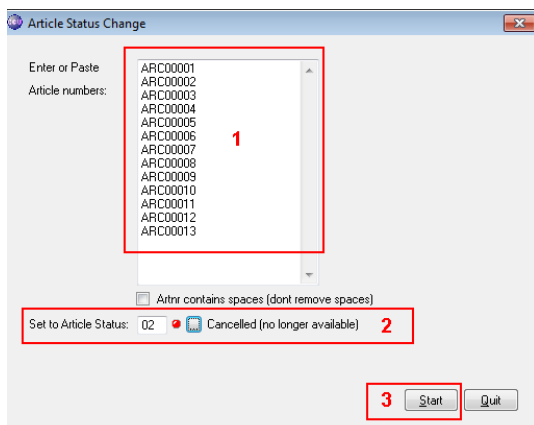

Figure 3: Using the Article Status change functionality
To use this new functionality please insert or paste the article numbers from MS Excel you want to change the status for (1). Then set the new *Article Status* for these articles (2). Click *Start* to change the status for these articles (3). Also see the red linings in *Figure 3: Using the Article Status change functionality*